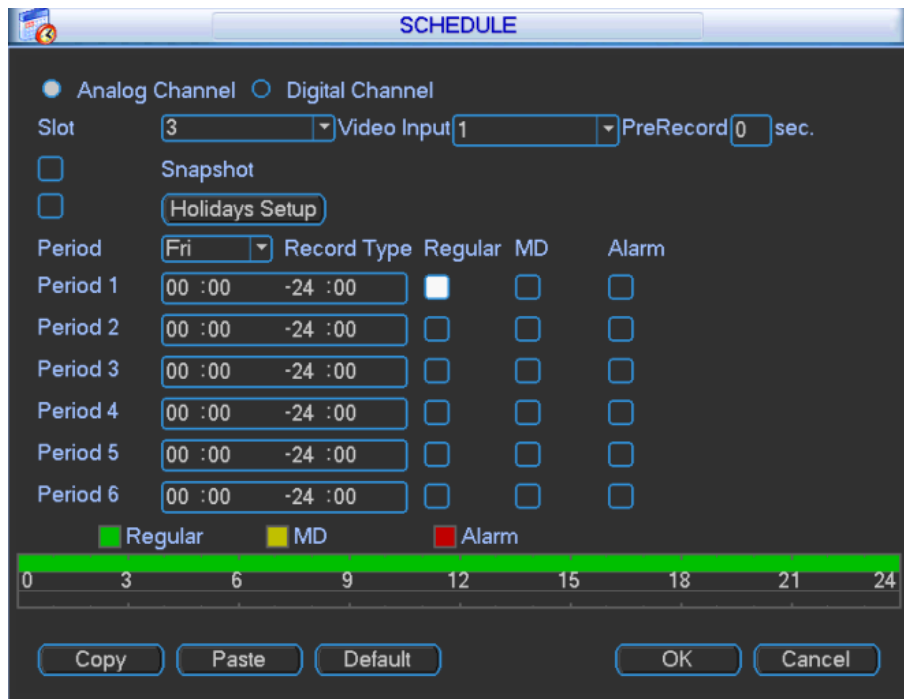
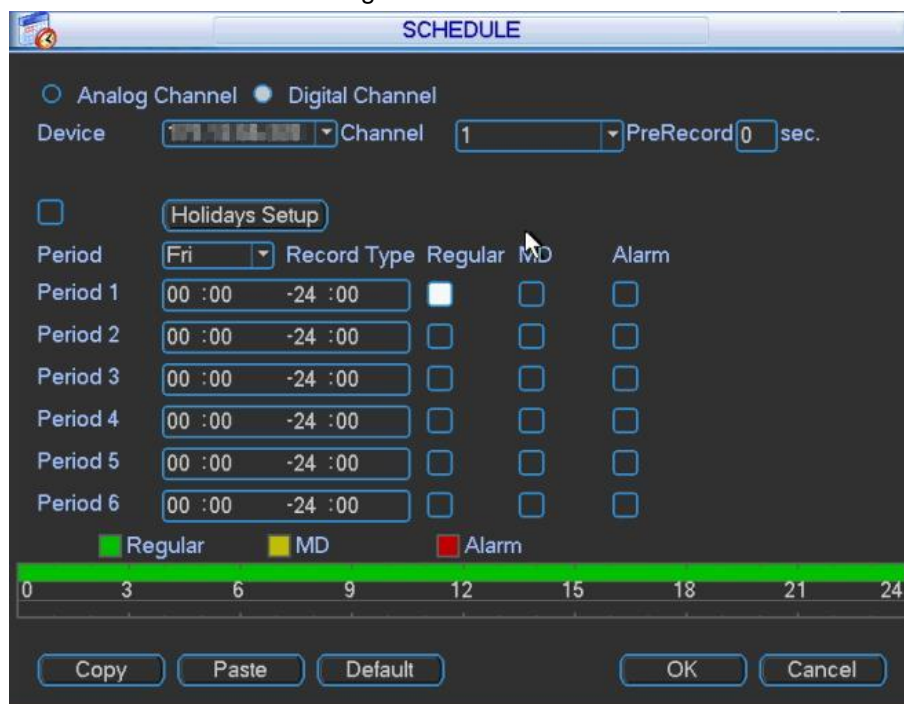

Figure 3-34
Figure 3-35
Step 1 In main menu, select "Setup>Schedule", and the system displays "Schedule" interface, as shown in Figure 3-34 and Figure 3-35.